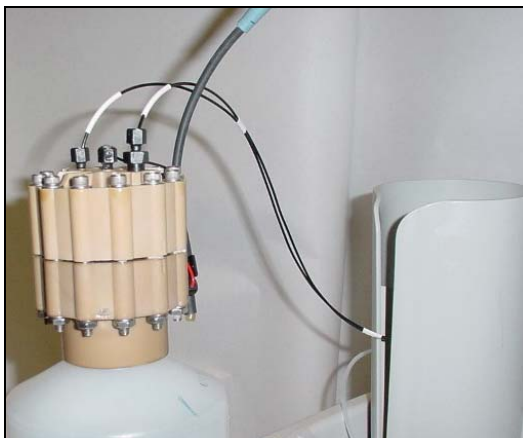

Figure 61. Dionex EluGen Cartridge Inlet and Outlet Port Connections
9. Connect the **EGC IN** line to the Dionex EluGen cartridge **INLET** port (see Figure 61).